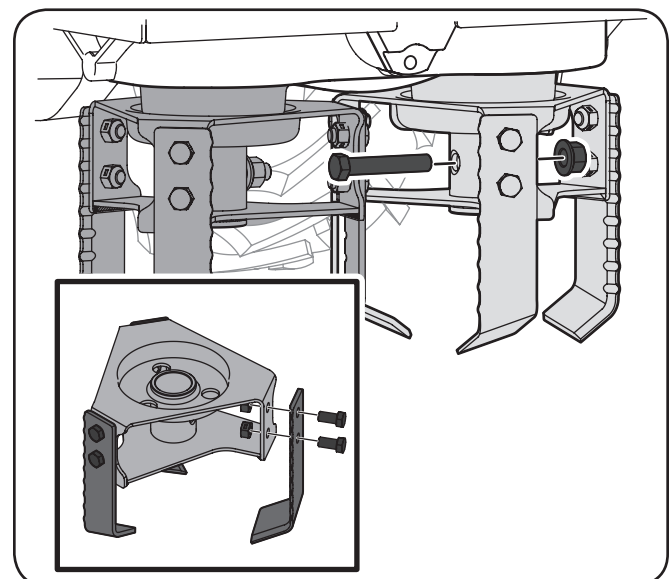

Figure 7-6
- To remove a tine assembly, simply remove the hex screw and flange lock nut as seen in "Figure 7-6". Remove the hex screw and slide the assembly off the tine shaft.
5. Install the tine assemblies on the proper tine shaft using the hex screw and flange lock nut as seen in "Figure 7-6".